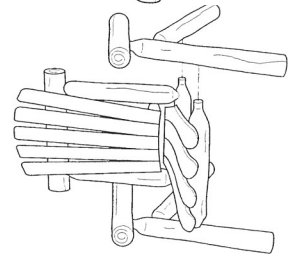

figure 3
- STEP 3 Lay one leg set on a flat surface with drilled leg holes facing up. Lay back and seat assembly on its side and insert doweled ends of seat rails into holes on leg sets. Drive legs on as far as possible. Align second leg set holes with the doweled ends of the seat rails. (As shown in figure 3.) Drive legs on as far as possible.